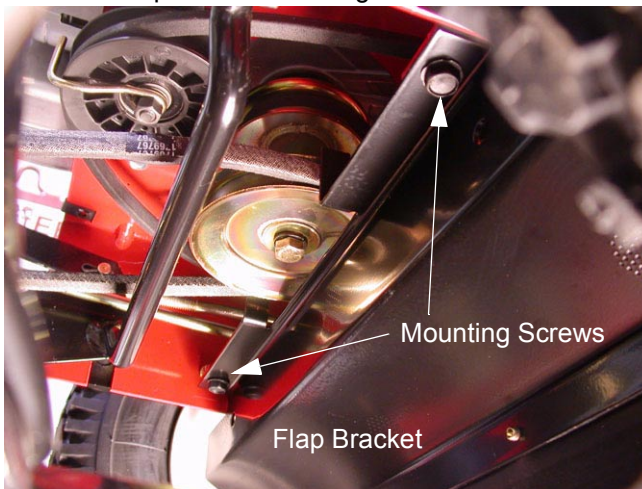

Figure 7
- 1.3. Using a ½ inch socket, remove the two screws attaching the flap bracket to the frame. Remove the flap bracket. See Figure 7.